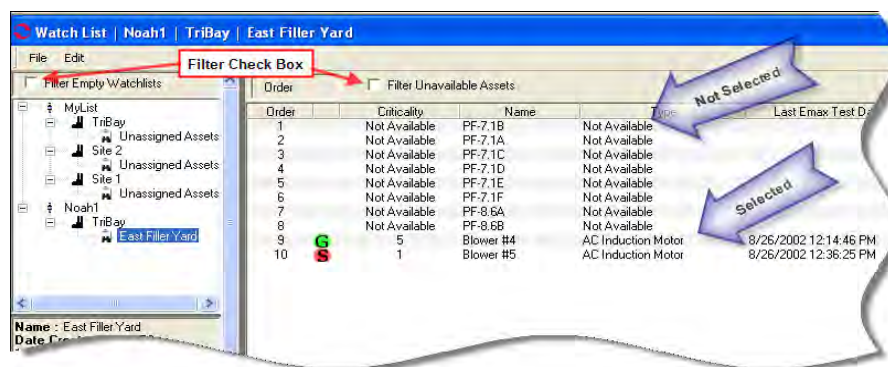

Figure 4-50: WatchList With Not Available Assets
3. The unselected assets can be hidden by using the Filter Empty WatchLists or Filter Unavailable Assets functions. See Figure 4-50.